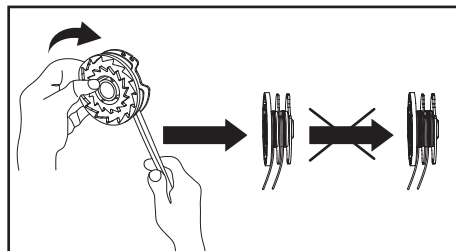

Fig. 59
6. Wind all the trimming lines firmly around the trimming spool in direction of the arrows on the trimming spool (1c) (Fig. 59).